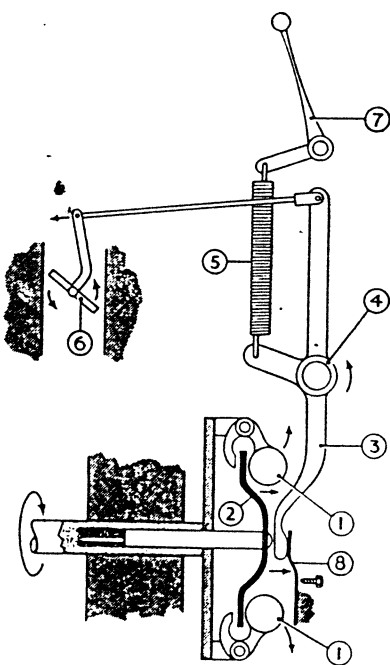

FIG. 2
## Action of Governor—Fig. 2,
Fig. 2, shows a diagrammatic view of the governor, from which it can be seen that as the assembly revolves, centrifugal force causes the bobweights (1) to fly out developing a secondary horizontal force acting on the governor lever (3) through the governor cup (2). This force is always proportional to the governor speed, which in turn is proportional to the engine speed :